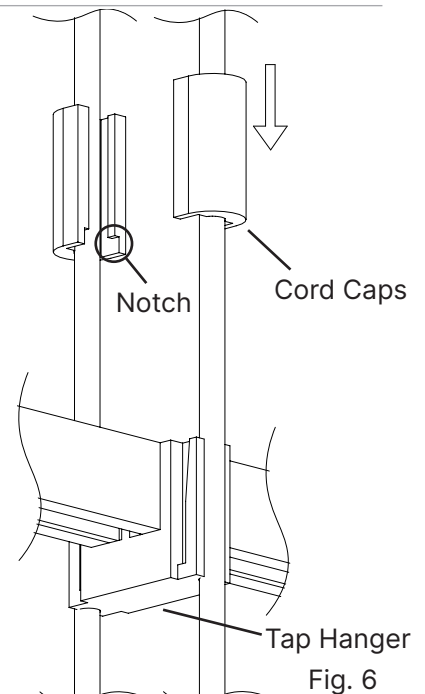

Fig. 6
6. To secure cord electrical connection, align **Cord Cap** over slot on each side of the **Tap Hanger**, and position the notches on bottom of the Cord Cap to face toward Tap Hanger (Fig. 6), then firmly slide down into position (Fig. 6). Repeat on opposite side.